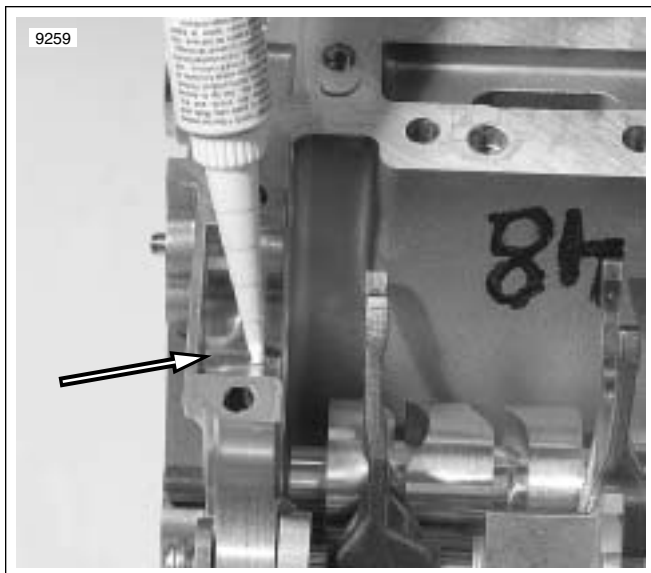

Figure 3-132. Locating Pin Hole
5. See Figure 3-132. A SMALL dab of RTV VRSC crankcase sealer around the output bearing locating pin hole will help to keep bearing from dropping during assembly. THIS IS ONLY DONE ON THE OUTPUT SHAFT FIRST GEAR BEARING.